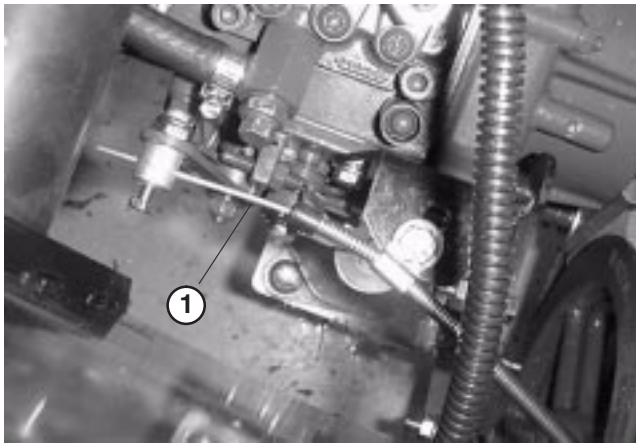

Figure 54
1. Adjust throttle cable (Fig. 54) so governor lever on engine contacts low and high speed set bolts before throttle lever contacts slot in control panel.